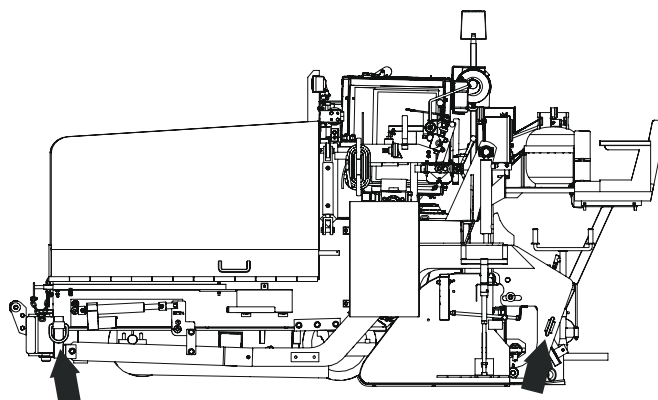

Figure 4-54. Tie-Down D-Ring Locations
2. Attach tie-down chains to the front weight block and the D-Rings in front of the torque hubs. (Figure 4-54).